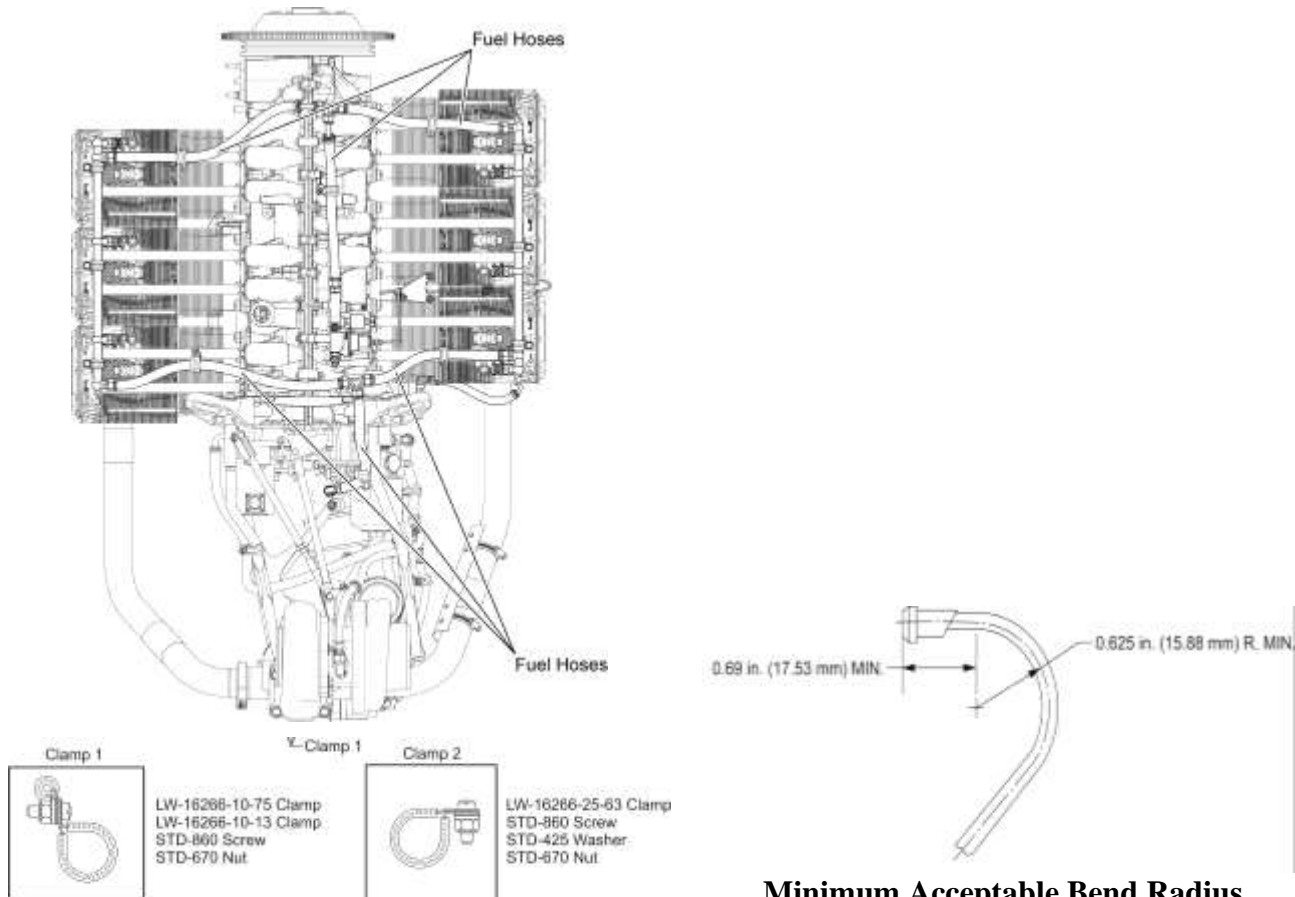

Figure 3
- A. There are six fuel hoses (or lines) on this engine (Figure 3). For reference, identify each fuel hose by number.
NOTICE: Figure 3 is an example of a fuel hose routing configuration for this engine. This figure is conceptual and for reference only. Fuel hose routing on your engine could have a different configuration.